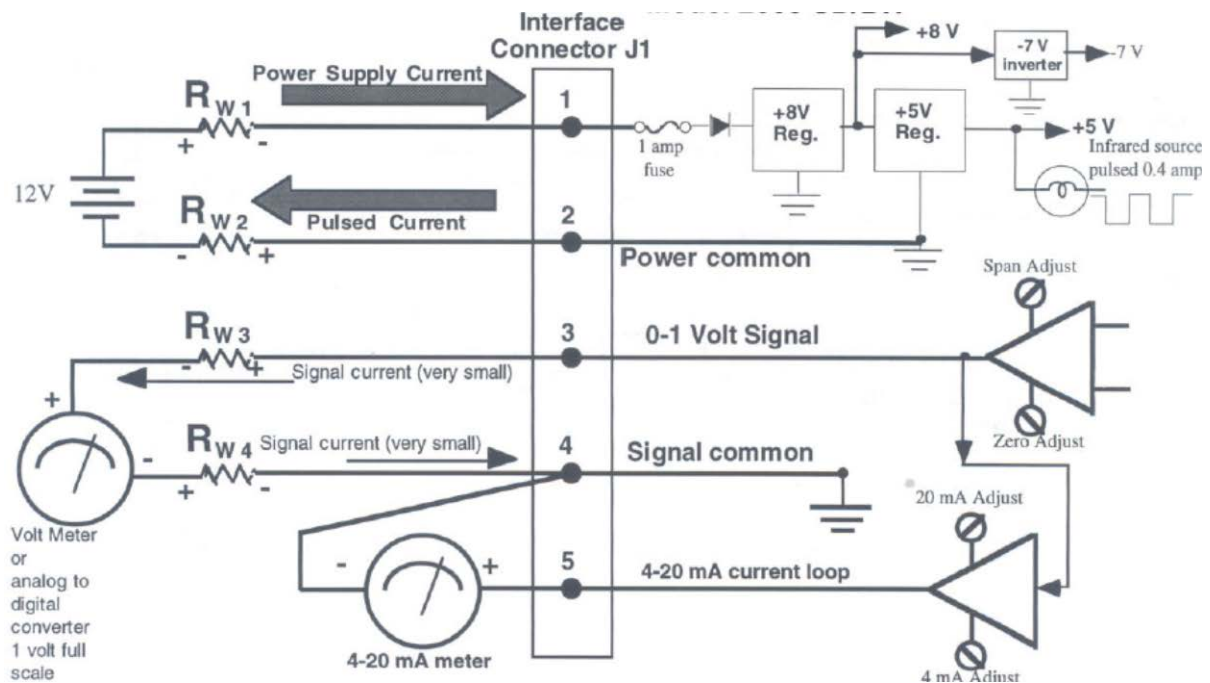

FIGURE 7
1. How to avoid Ground Loops: As seen in figure 7, you should keep the power supply circuit and the signal circuits separated. Even though the Power common and the Signal common are tied together on our printed circuit board, you must run separate wires for each one and make sure that the Power common wire is a large wire gauge and as short as possible. The object is to prevent the pulsed power supply current from getting into the signal path. The power supply current pulses, created by the infrared source turning on and off every 1.008 seconds, will follow the path of least resistance (represented by R_{W1} and R_{W2} , the resistance of the wires). The current flowing through the wire resistance creates a voltage drop (current times resistance) that would appear to be noise if the two loops were connected together. This is classically called a **ground loop** problem.